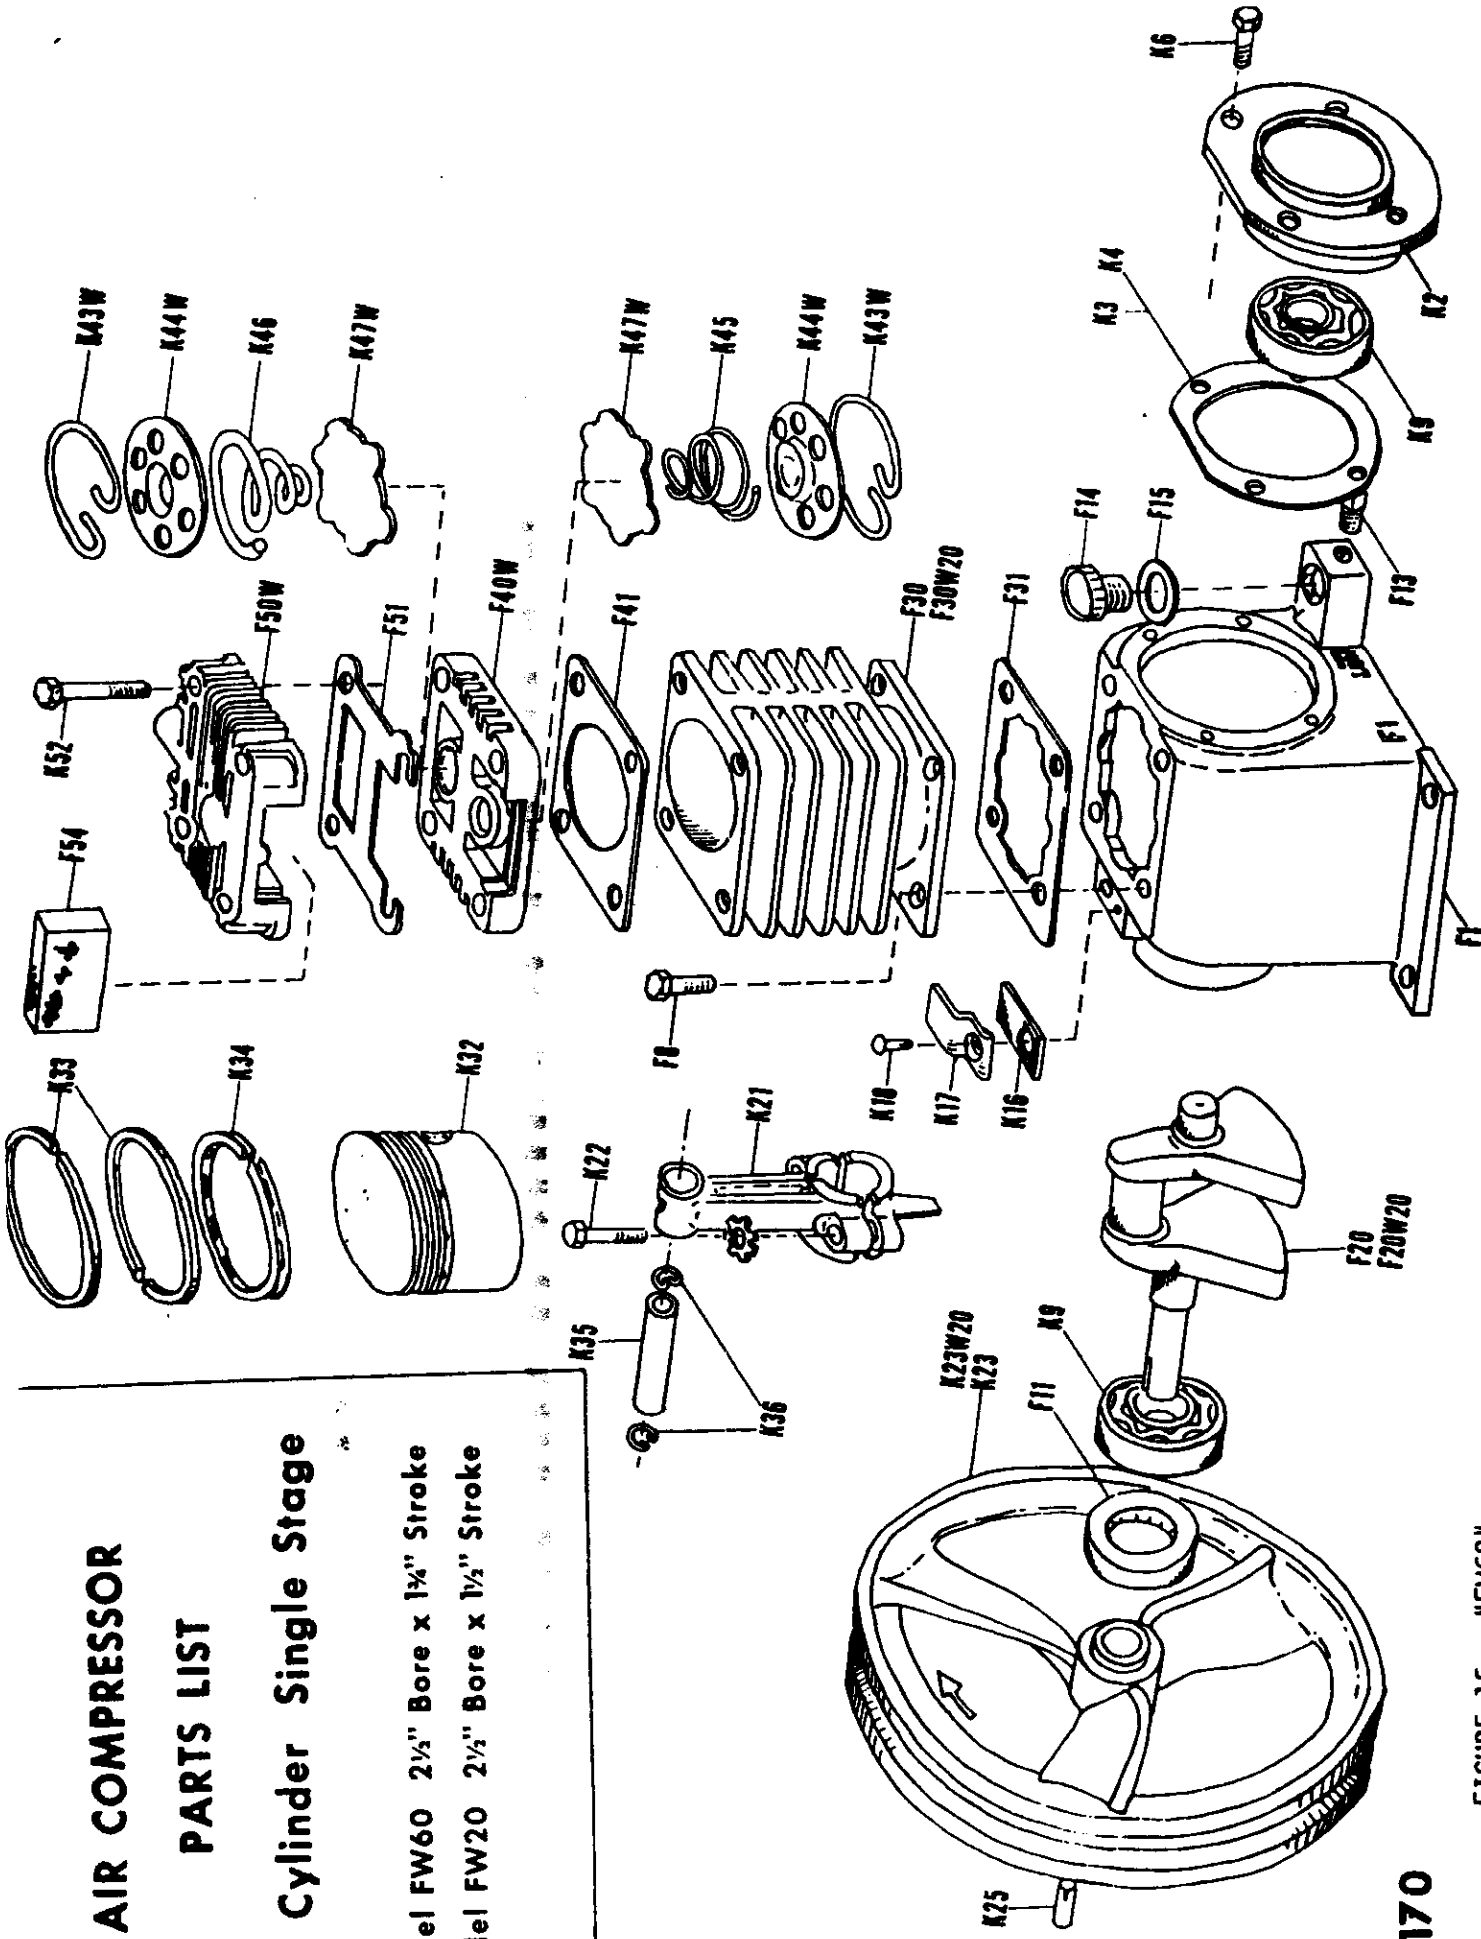

FIGURE 15 - "FW60"
3. Observe whether the trip rod rises when the control switch is moved to the position for tripping. (See Fig. 15).